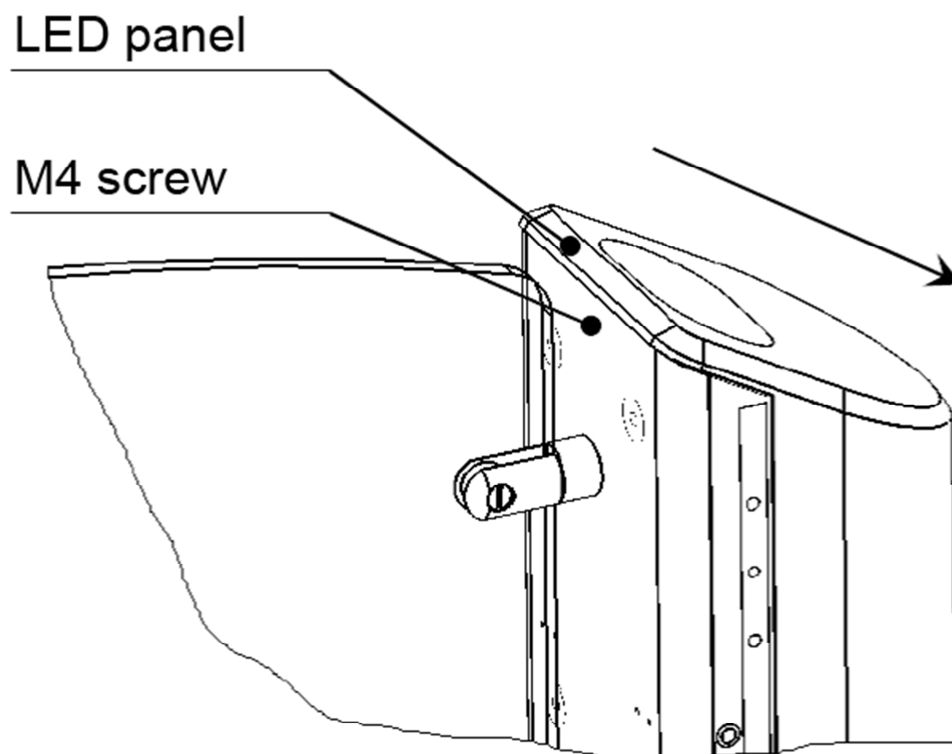
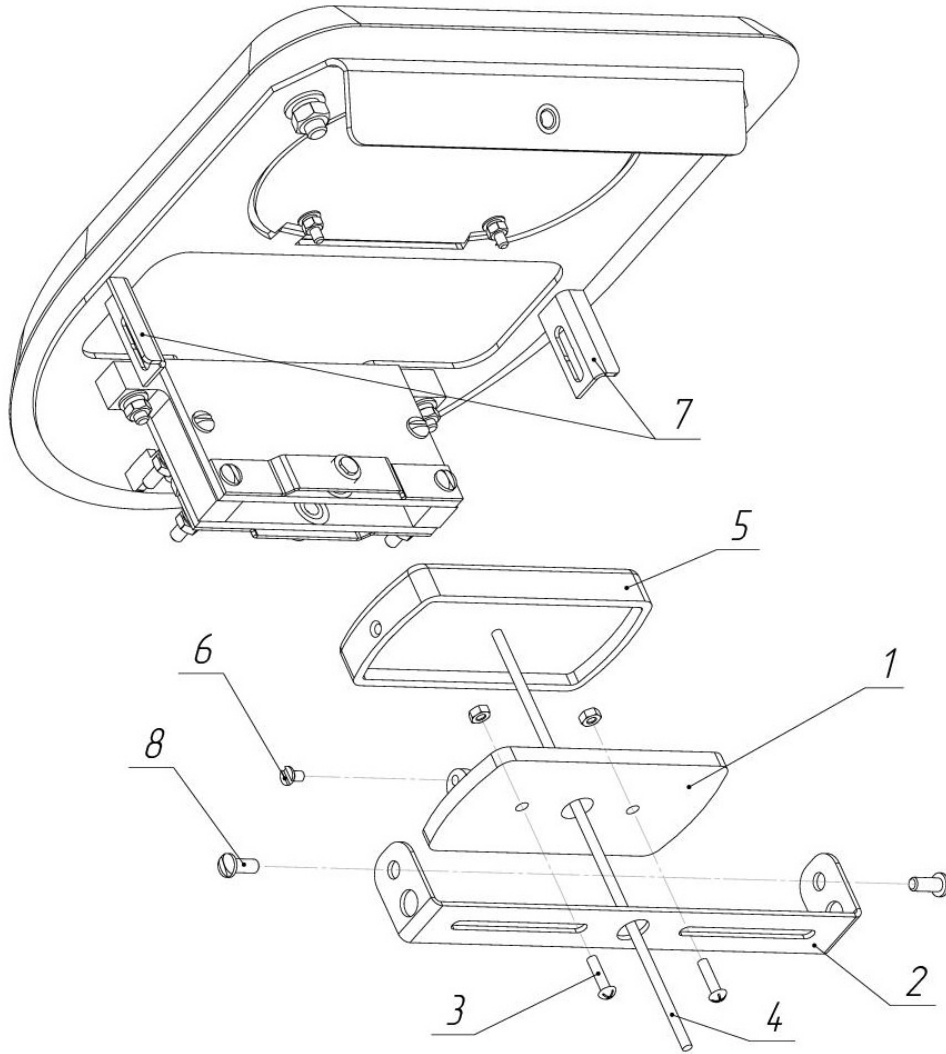
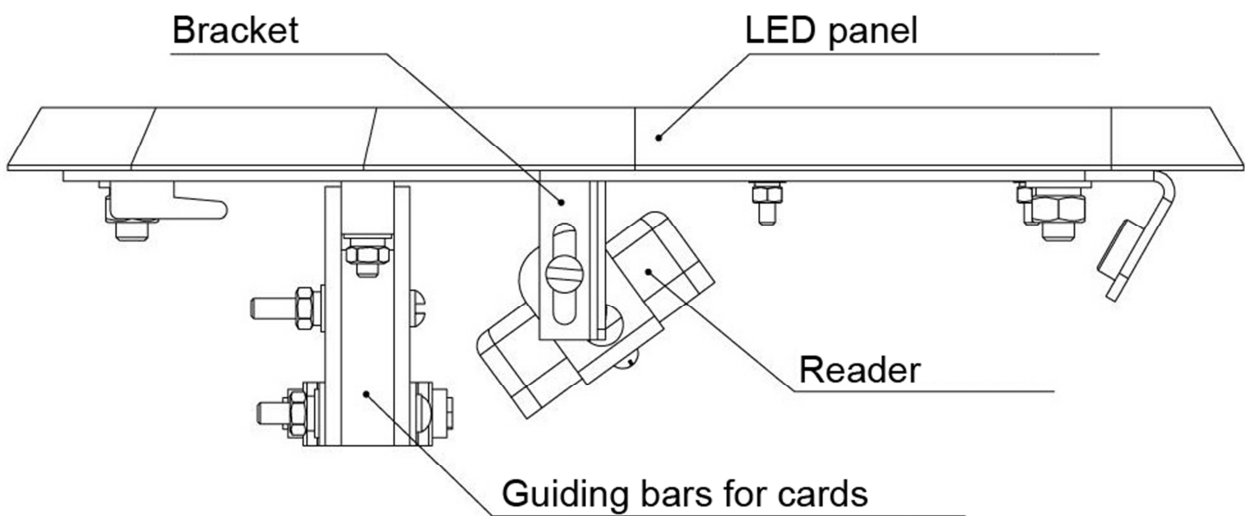

Fig. 18
Fig. 19. Installation of proximity card reader
Fig. 20 Recommended option for card reader installation
6.5.1. Undo the M4 screw at the rear of the card collector (Fig. 18)
6.5.3. Remove two M4 screws (8, Fig. 19) and remove the universal bracket for readers (2, Fig. 19).
6.5.4. Disassemble the reader, removing the M3 screw (6, Fig. 18), and set its lower part (1, Fig. 19) on the bracket using the two M4 screws with nuts, washers and lockwashers (3, Fig. 19) .
6.5.5. Put the cable (4, Fig. 19) in the bracket hole, install the top cover of the reader (5, Fig. 19). Tighten the M3 screw (6, Fig. 19).
6.5.6. Fix the bracket to clips (7, fig. 19) using the M4 screws (8, Fig. 18). It is recommended to install a reader at an angle of 40 ... 50° to guiding bars for cards (Fig. 20). In this case, the guest and permanent card will be read equally well.
The RC panel uses modern CAN2.0 noise-immune bus. According to CAN2.0 standard signal cable length can exceed one kilometer, however correct operation on these distances depends on many factors. Always use Cat5e or Cat6 twisted pair at distances exceeding 25 meters. The total electrical resistance of DC power supply wire shall not exceed 50 ohms. If this requirement cannot be met an additional 12V / 100mA power supply unit (minimum operating voltage of PU - 7.5V). There are 3wires - CL, CH, GND - enough for the correct operation of the turnstile. In this case the power supply wire from the PU to the turnstile is not required. See Fig. 18. Two RC panels can be connected to the same turnstile.